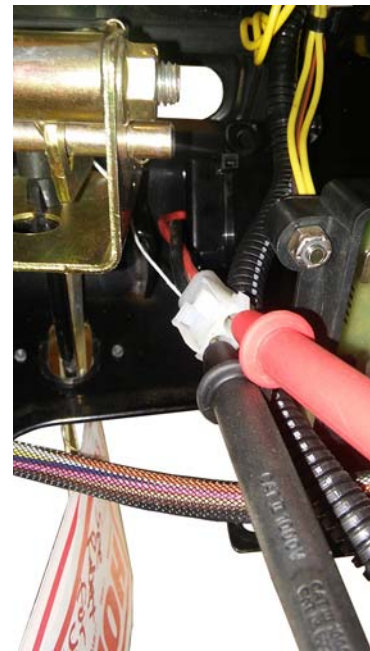

Figure 183
- b. Check the battery. With the engine off, the battery voltage should be 7.2 V DC – 8.4 V DC. See Figure 183.
If DC output is higher than 8.4 V DC, replace ECU. See Figure 183.